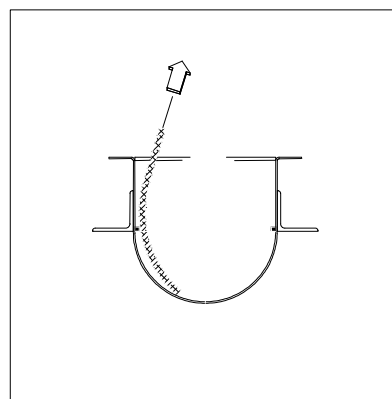

Figure 2.5.2d - Pulling Out the Liner
5. Take hold of the liner and pull it out (see fig 2.5.2d).